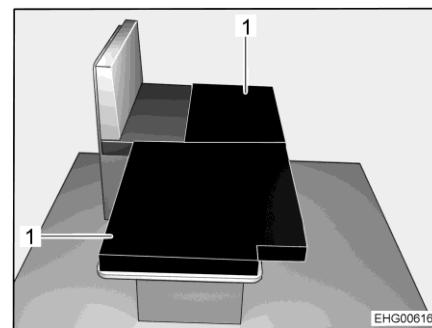

Fig. 38 After conversion
- Place the two additional cushions (Fig. 38,1) on the lowered table as shown in the image.